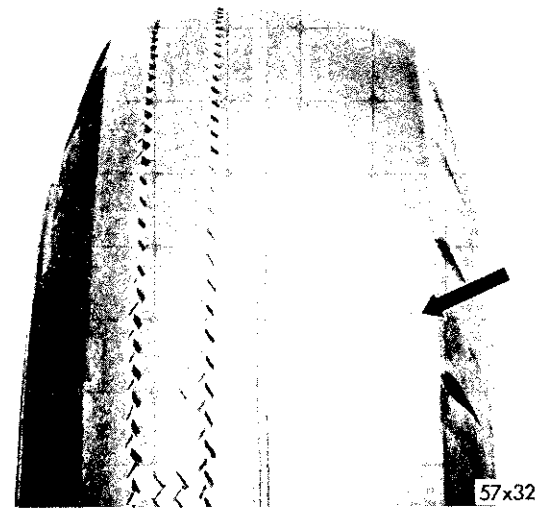

Fig. 1—Camber Wear
1. **SIDE WEAR (Figs. 1 and 2)**